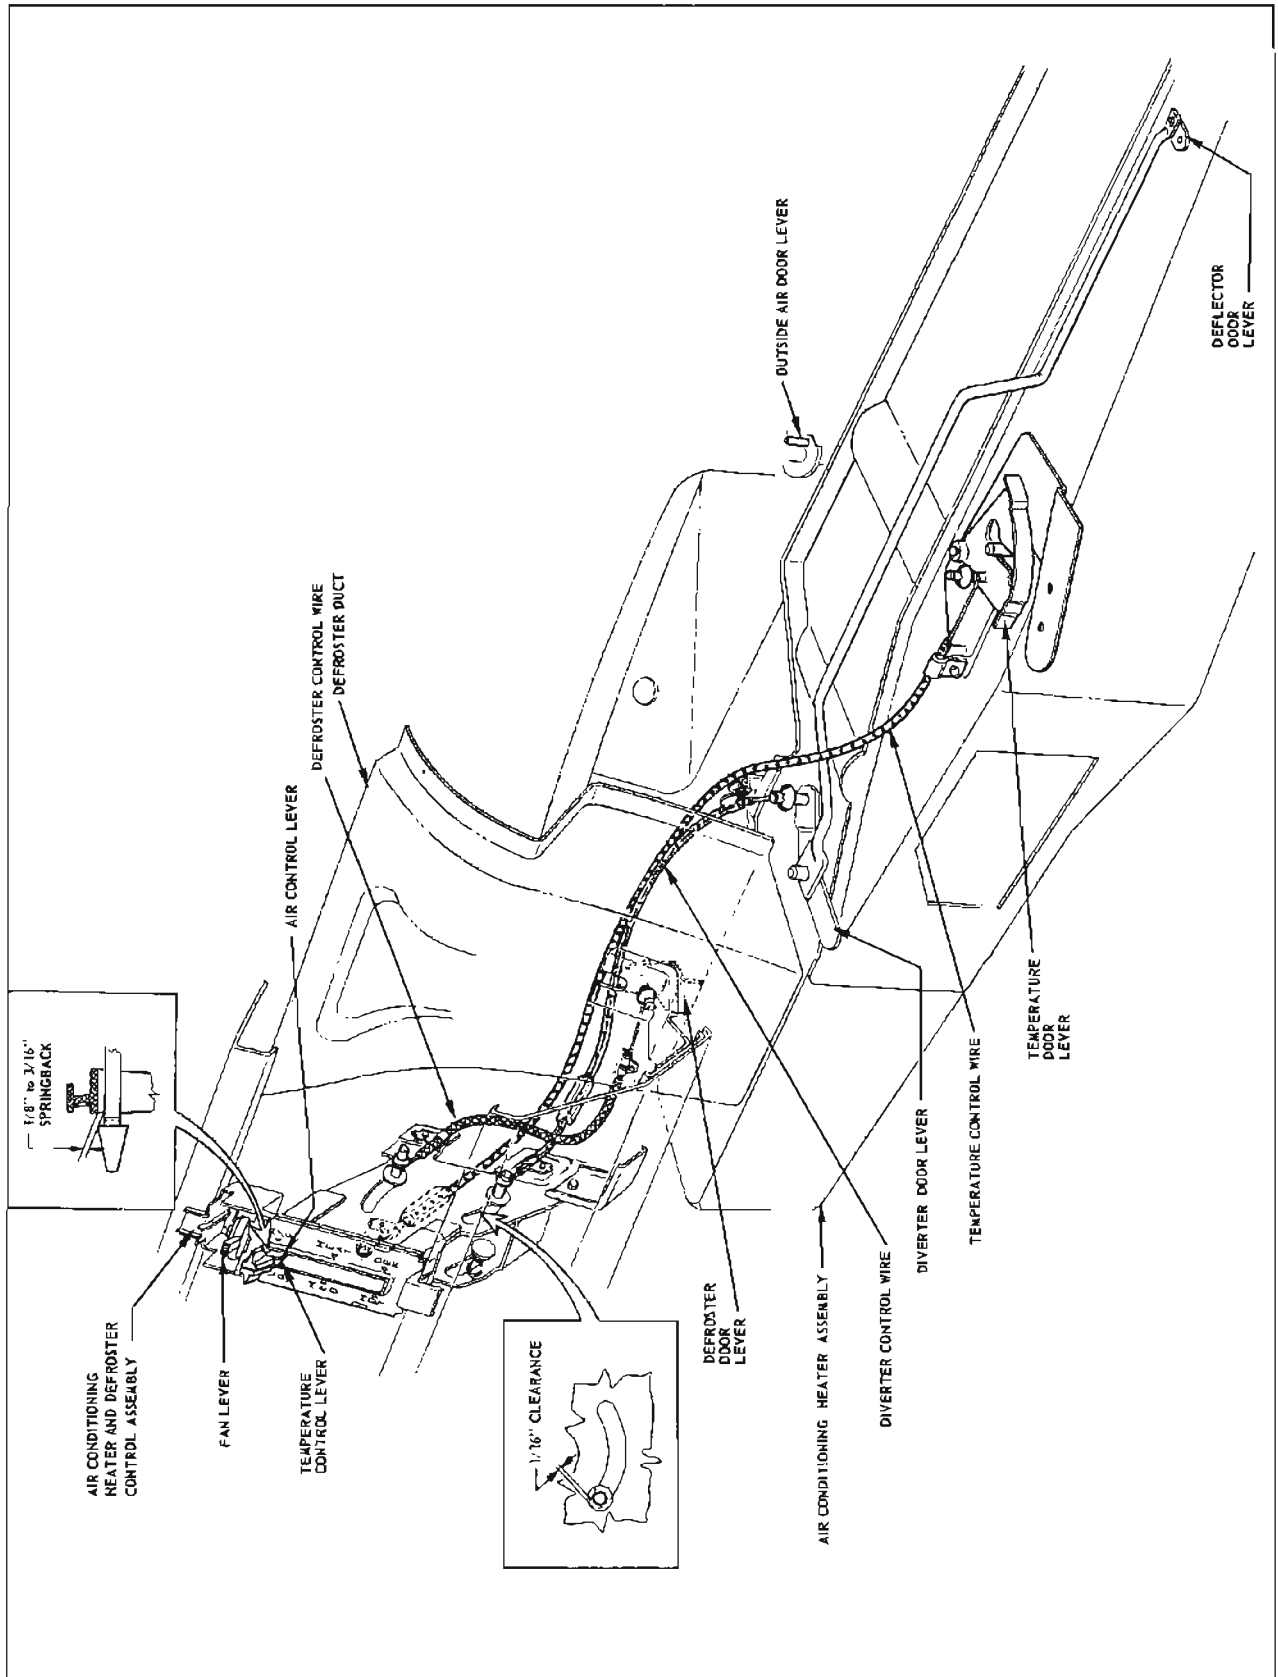

Figure 11-19—Air Conditioner Heater Assembly Control Wires and Controls
### a. Temperature Control Lever (Fig. 11-19)
**b. Air Control Lever (Fig. 11-19)**
#### c. Fan Control Lever (Fig. 11-19)